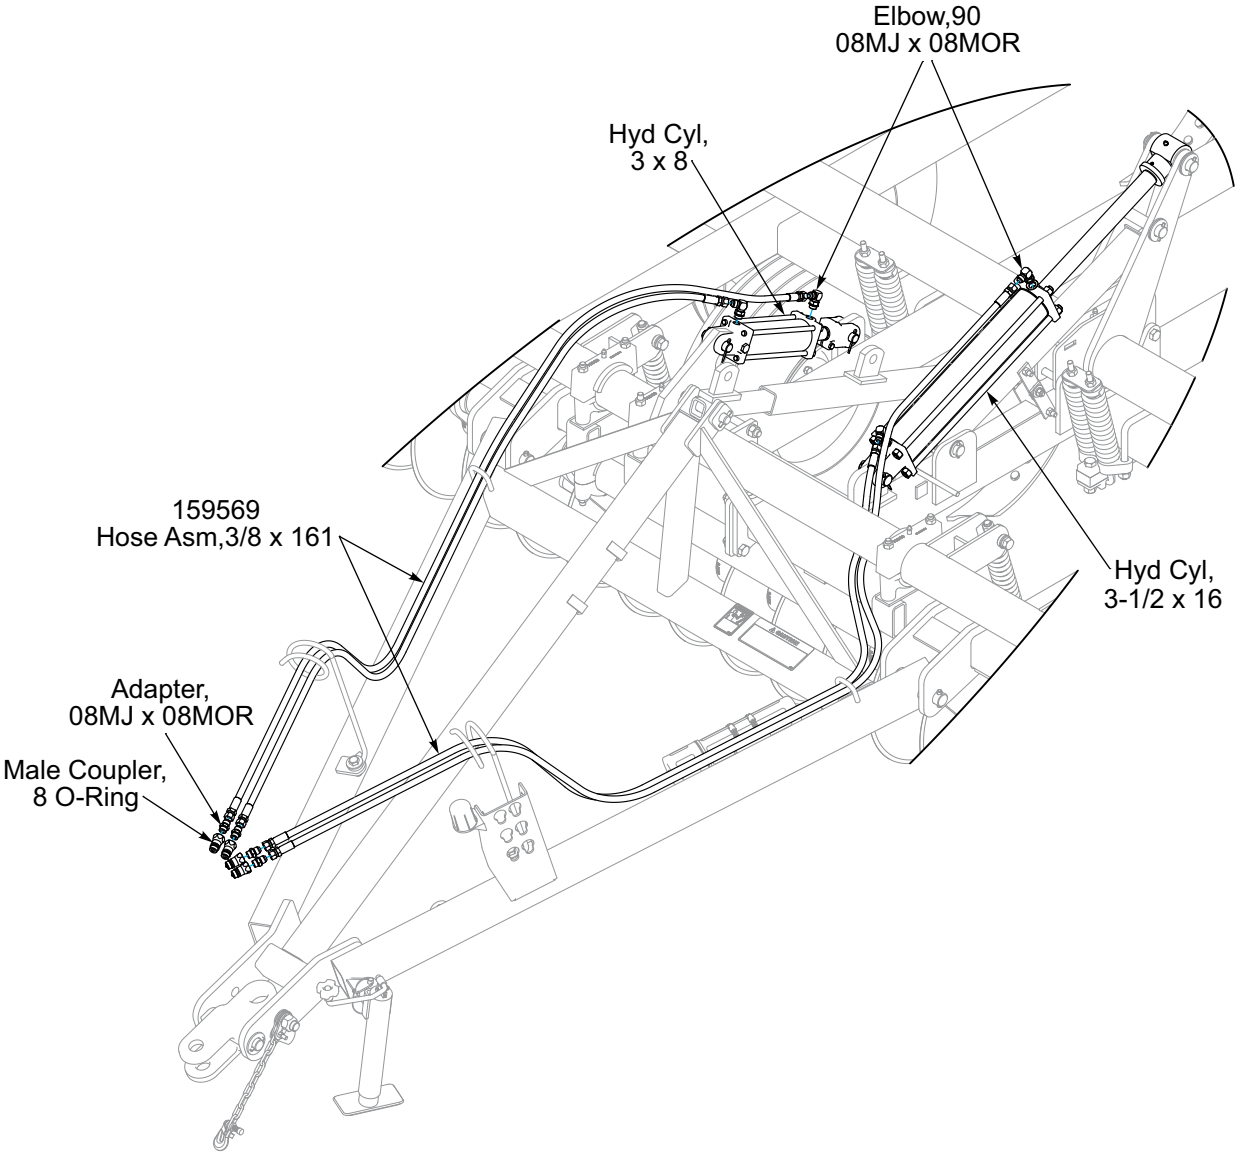

Figure 2-46: Hydraulic Layout
The hydraulic system consists of a Lift Circuit and if equipped an Adjustable Coulter Circuit. **See Figure 2-46.**
1. Install Elbow Fittings into 3-1/2 x 16 Hydraulic Cylinder. **See Figure 2-46.**
1. Install Elbow Fittings into 3 x 8 Hydraulic Cylinder. **See Figure 2-46.**